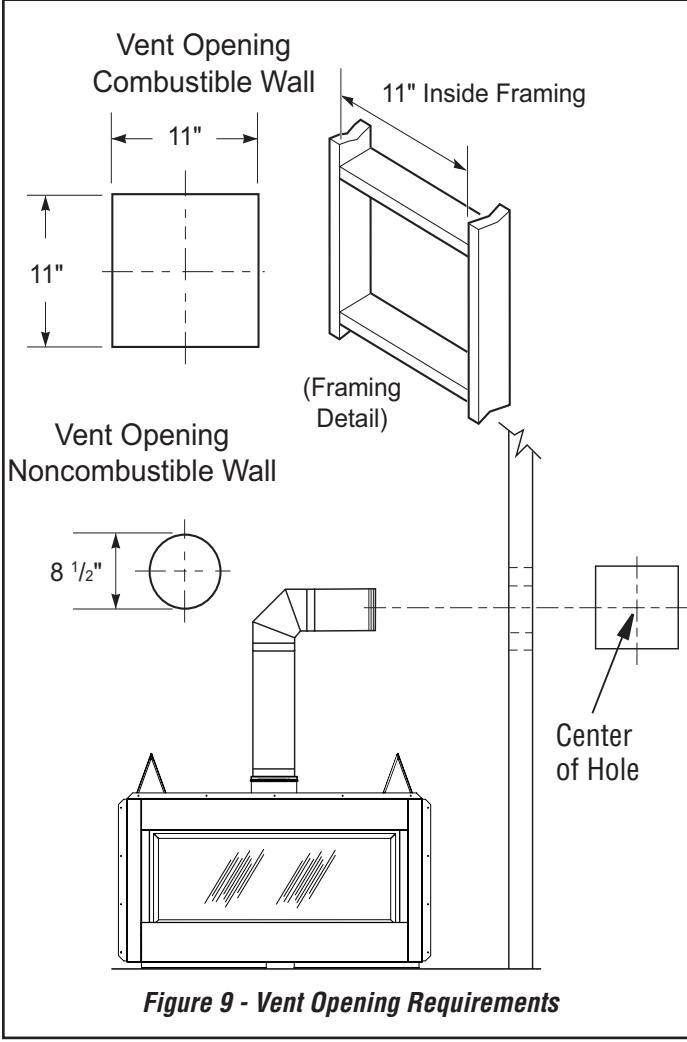
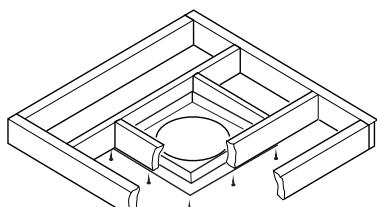

Figure 9 - Vent Opening Requirements
Figure 18 - Installing Firestop
4. Carefully determine location where vent pipe assembly will penetrate outside wall. Center of hole should line up with center line of horizontal vent pipe. Mark wall for an 11"x 11"square hole. Cut and frame square hole in exterior wall where vent will be terminated. If wall being penetrated is constructed of noncombustible material, such as masonry block or concrete, a 8 1/2" hole with zero clearance is acceptable (*see Figure 9*).
1. Cut an 11" square hole in ceiling using locating hole as a center point. Opening should be framed to 11"x 11" inside dimensions, as shown in **Figure 9** on page 20 using framing lumber the same size as ceiling joists. If area above ceiling is an insulated ceiling or an attic, nail firestop from top side. This prevents loose insulation from falling into required clearance space. If area above ceiling is a living space, install firestop below framed hole. Firestop should be installed with no less than three nails per side (**see Figure 18**).
3. Cut a hole in the roof using locating hole as a center point. (Cover any exposed open vent pipes before cutting hole in roof.) The 11"x 11" hole must be measured on the horizontal; actual length may be larger depending on pitch of roof. There must be a 1" clearance from vent pipe to combustible materials. Frame opening as shown in **Figure 9** page 20.